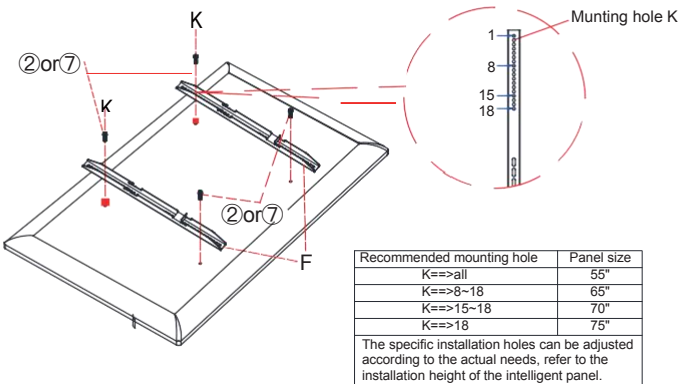

figure 7
Step7: Assemble the Interactive Flat Panel and hanging bar F with right screw (②or⑦) based on actual use demand. (figure 7).